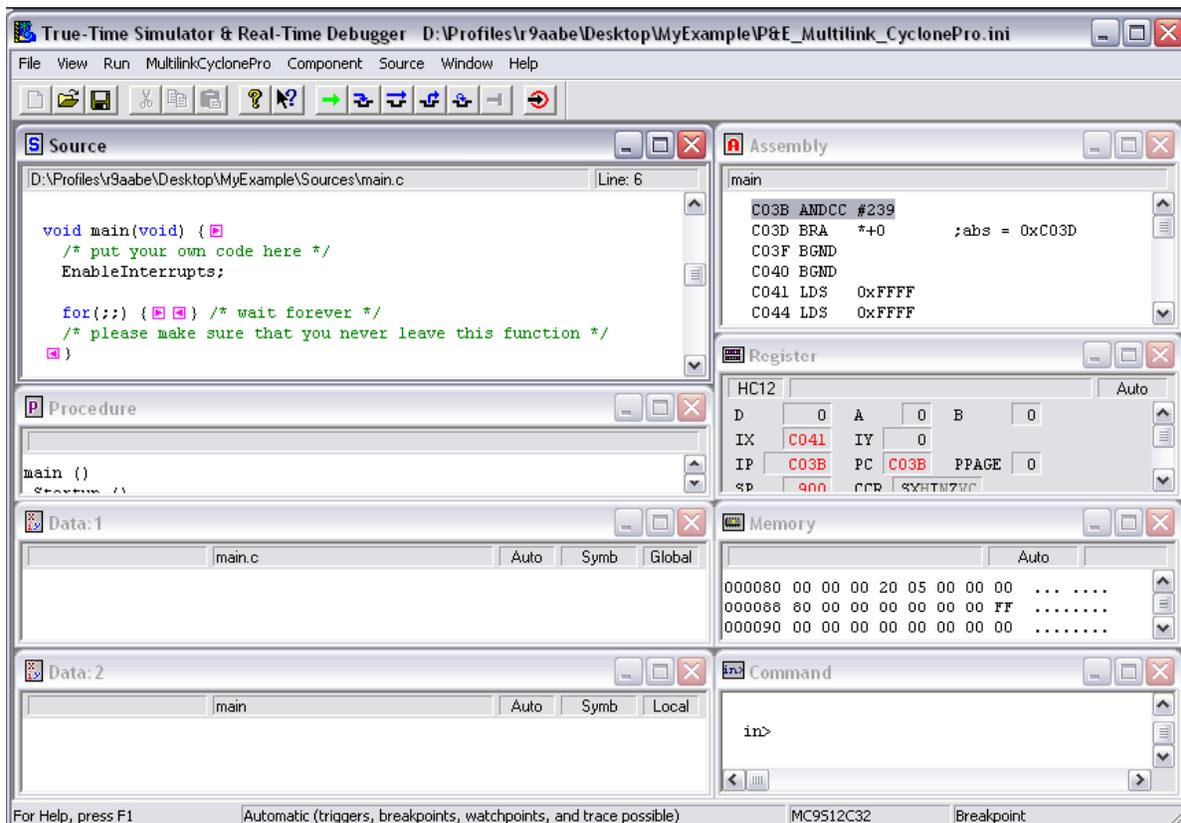

Figure 15. CodeWarrior Debugger Window
- d) Once the debugger is launched a window similar to Figure 15 will appear. The operation of the various subwindows is listed in Table 3 on the subsequent page. The configuration of subwindows can be user configured and saved using File->Save Workspace